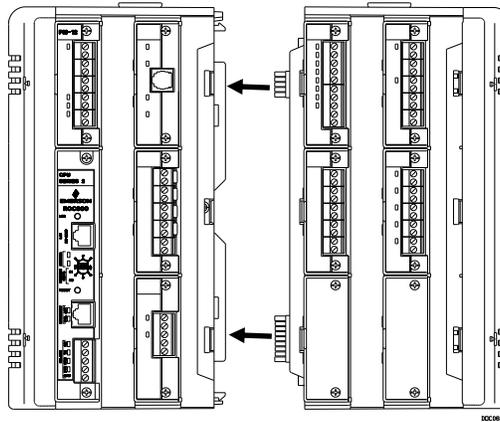

Figure 2-5. Power Connectors on the EXP Backplane
4. Align and gently press together the front right edge of the EXP against the front left edge of the ROC827. This aligns the power connectors on the EXP's backplane with the socket on the ROC827's backplane (see *Figure 2-5*).